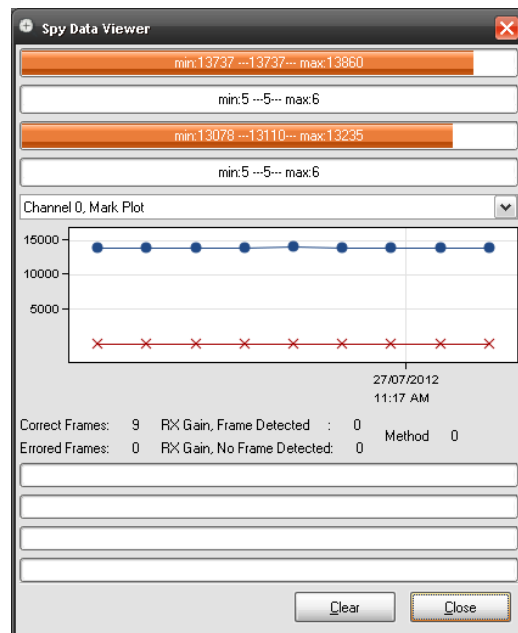

Figure 17. The Terminal Spy Window Graphically Shows the Current and Historical Signal and Noise Levels
- The ON–PL110 and IEC firmware can report the signal and noise values when frames are received. This can be very helpful during debugging; to enable it, issue set 3300 = 1. The reported values can be shown graphically in the spy window (depicted in Figure 17) with the *spy* command. The last reported levels are displayed by the four top bars; the historical levels are rendered in the graph below.